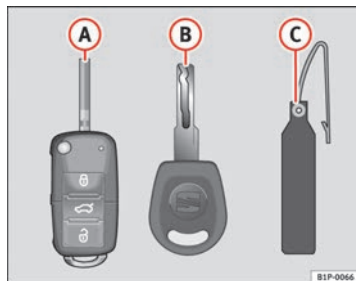

Fig. 44 Set of keys
- a remote control key ⇒ Fig. 44 **A**